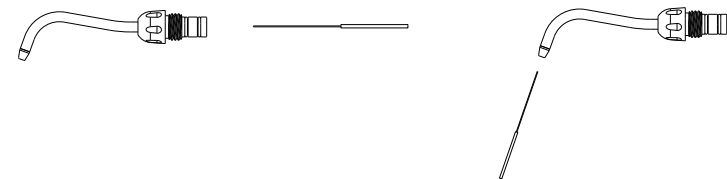

Figure 12
2. Use a short cleaning needle to align the front end and rear end of the nozzle, insert and rotate. (See Fig. 12)